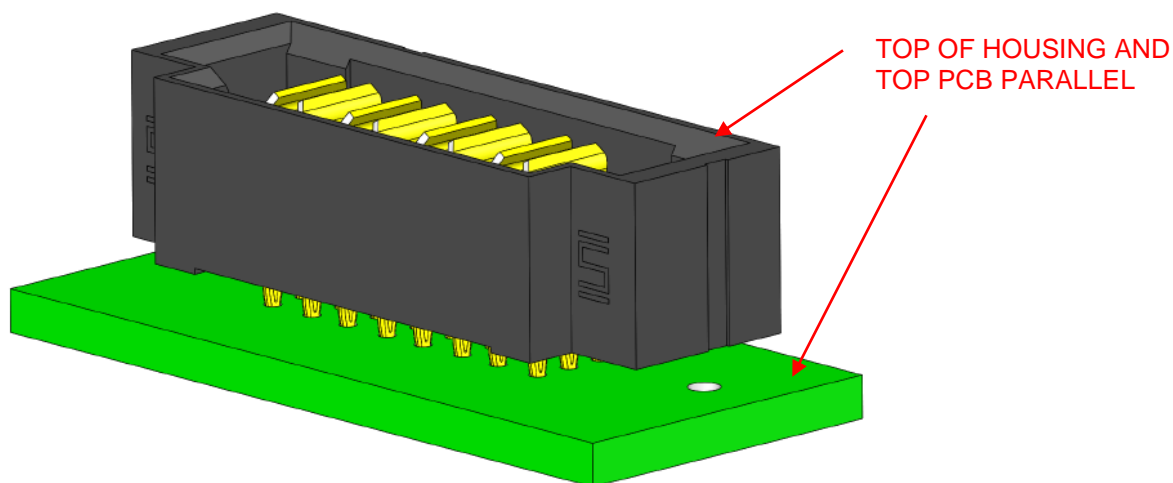

Figure 1: Connector Parallel to Top of PCB
- Insert press fit tails into holes on the PCB. The top surface of the housing should be parallel with the top surface of PCB after all the tips have been properly inserted. See figure 1